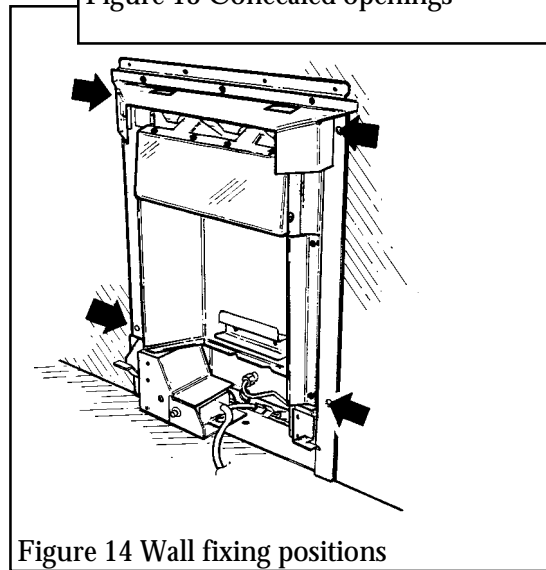

Figure 14 Wall fixing positions
7.4For fixing the unit to the wall (see figure 14):